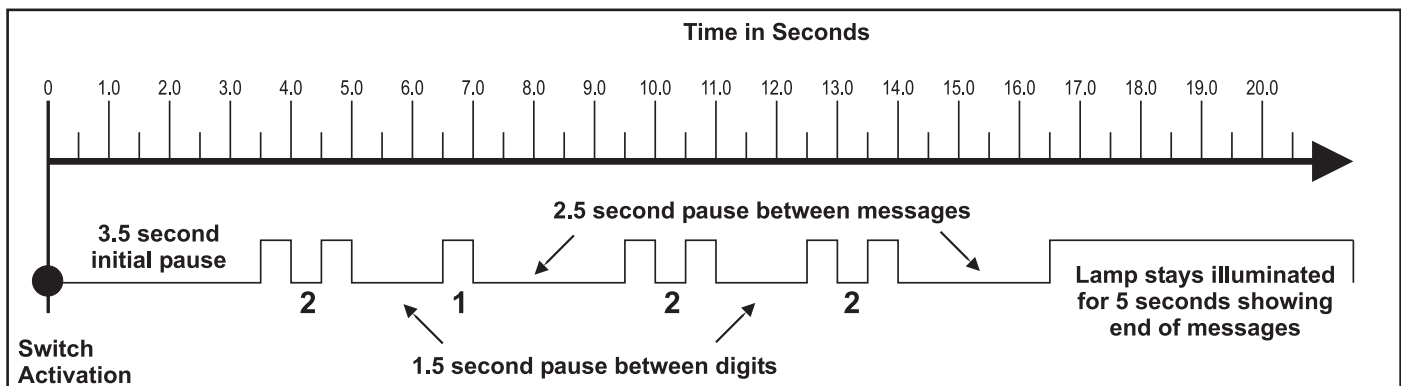

FIGURE 14 - EXAMPLE OF BLINK CODE MESSAGE
4. After a pause of 3.5 seconds, the ECU will begin responding with output information blinks. See Figure 14 for an example.